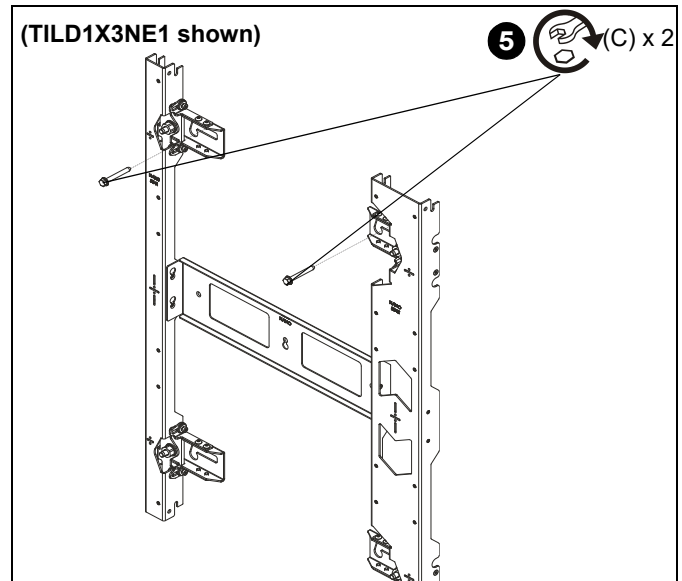

Figure 9
5. Install two lag screws (C) into wall, but do NOT completely tighten to wall. (See Figure 9)